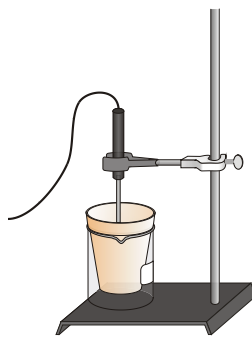

Figure 1
The solution formation is conducted within a calorimeter using two polystyrene cups nested in a beaker, as shown in Figure 1. By measuring the initial temperature of the water and the final temperature of the solution, the enthalpy of solution can be determined.
3. Nest two polystyrene cups inside each other and place them into a 250 mL beaker as shown in *Figure 1*.